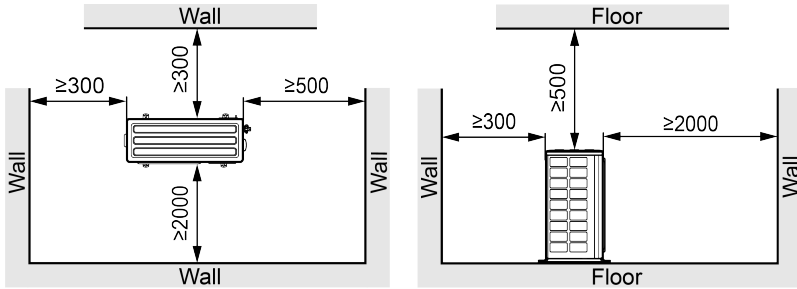

Figure 5-2 Space requirements for installation (Unit: mm)
- (2) The distance between the outdoor unit and the walls or other obstructions must not be too small, and the space for installing the outdoor units must meet the requirements provided in Figure 5-2.